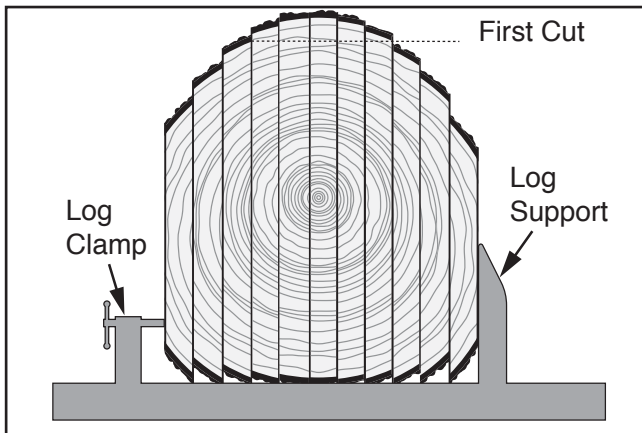

Figure 46. Flitches secured to track bed for edging.
1. Clamp multiple flitches to track bed, using log supports to ensure flitches are perpendicular to track (see **Figure 46**). Take care that log clamp holds flitches tight against supports.
2. Cut to remove bark from the tallest flitches. Cut as many flitches as possible without wasting excessive lumber (see **Figure 46**).